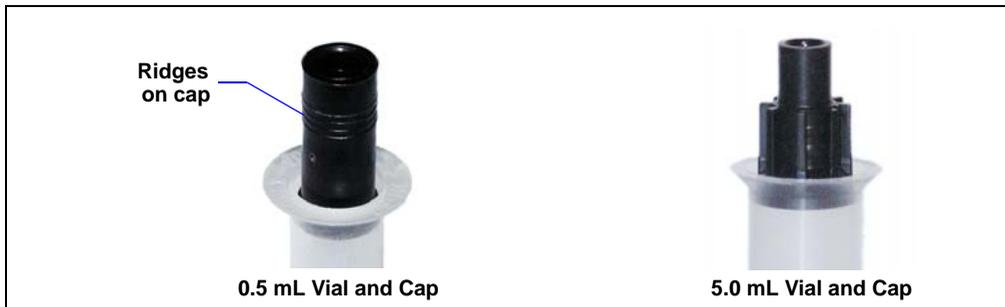

Figure 3-2. Caps Partially Inserted in Vials
- For a 0.5 mL vial, orient the cap with the ridged end up (see Figure 3-2) and place the cap in the vial.
- For a 5.0 mL vial, orient the cap with the small end up (see Figure 3-2) and place the cap in the vial.